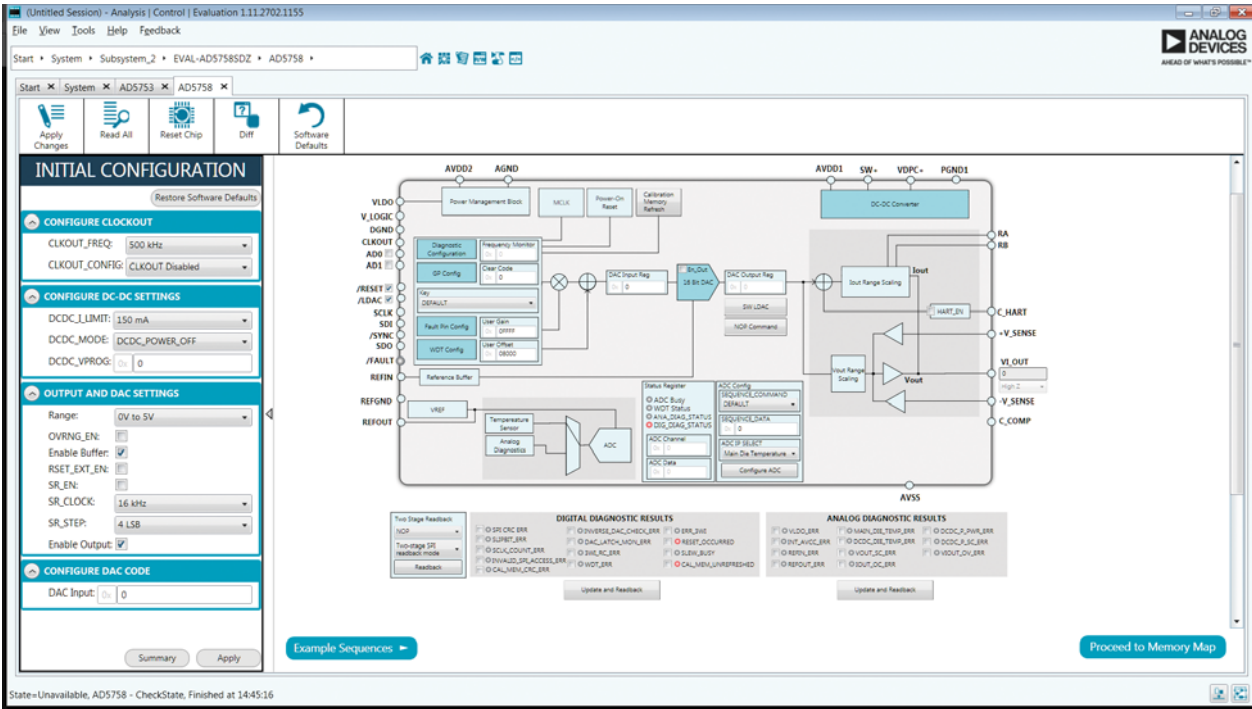

Figure 7. AD5758 Block Diagram in the ACE Software
7. Double-click **EVAL-AD5758SDZ** to open the **AD5758** block diagram (see Figure 7). The **INITIAL CONFIGURATION** pane appears on the left side of the window. Several register settings can be configured in this pane and are written to the device in the appropriate order. The **DIG\_DIAG\_STATUS**, **RESET\_OCCURED**, and **CAL\_MEM\_UNREFRESHED** LED indicators in the window are illuminated red by default.